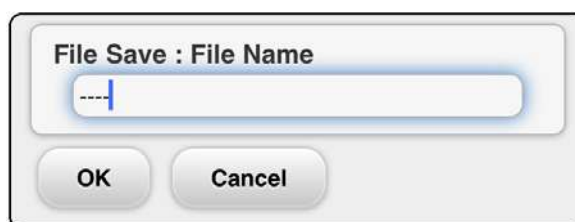

Fig. 4-135 Measurement Condition Saving Window
- (1) When saving the measured data, press  [save button] icon shown at the header part.
- (2) The file input window (Fig. 4-135) will then be shown. After a saving file name is input, press [OK button].